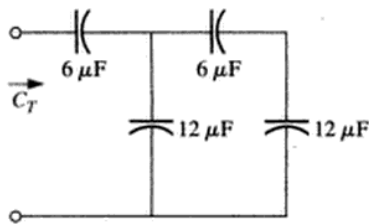

FIG. 10.119
48. Find the total capacitance C_T for the circuit in Fig. 10.119.